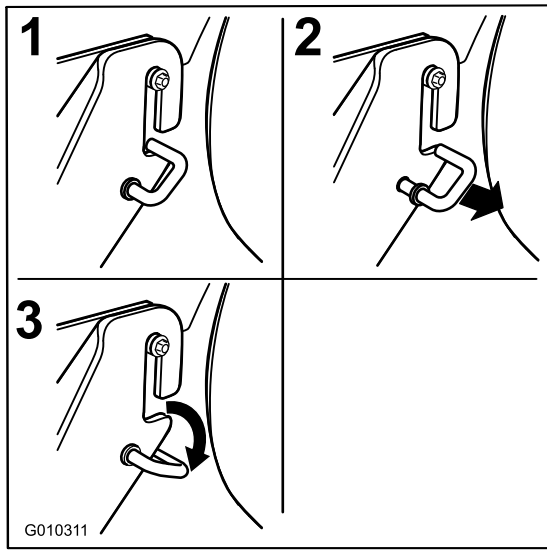

Figure 62
1. Move the spring loaded J-hooks out of the slot in the rear hanger brackets on both sides of the deck (Figure 62).